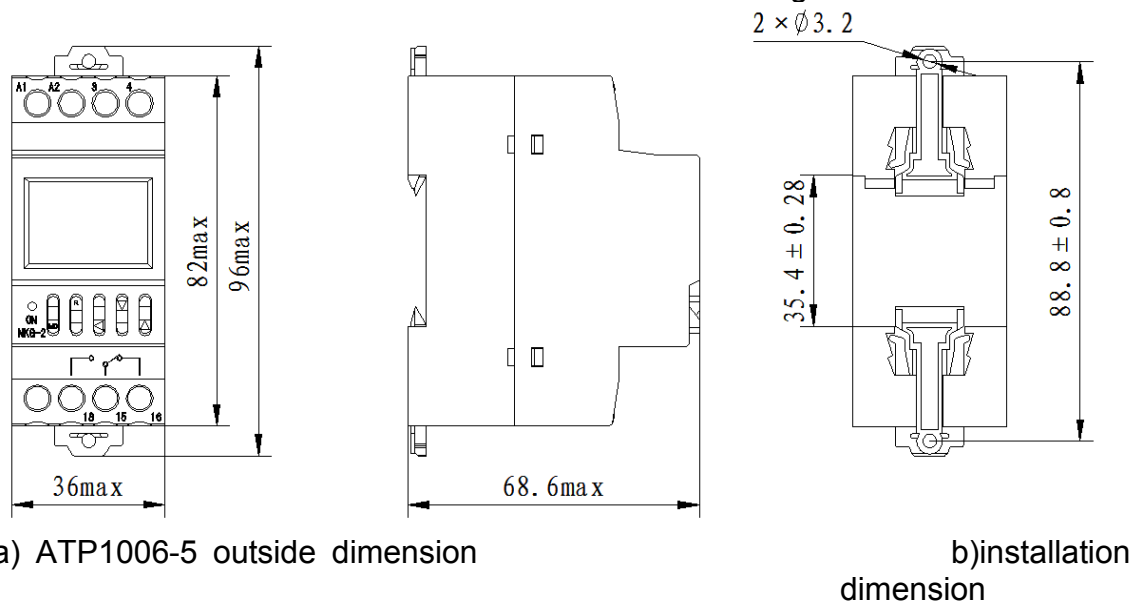

Figure 1 Outside dimensions and installation dimensions of ATP1006-5
3.1 Outside dimension and installation dimension see Figure 1.